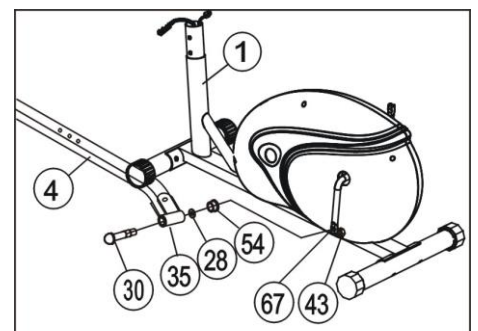

Figure 6
Insert pedal axis (30) to Rear clip bracket (35), then attach Wave washer (28) and Pedal axis bushing (54). Screw pedal axis (30, 31) into the crank (67) with the Power support pole (92) and lock them with lock nut (43). (Refer figure 6)